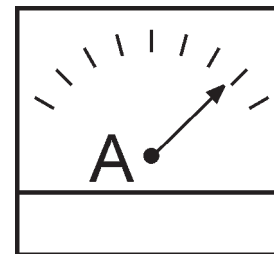

Figure 30. Ammeter (Load)
12. Observe the generator's ammeter (Figure 30) and verify it reads the anticipated amount of current with respect to the load. The ammeter will only display a current reading if a load is in use.